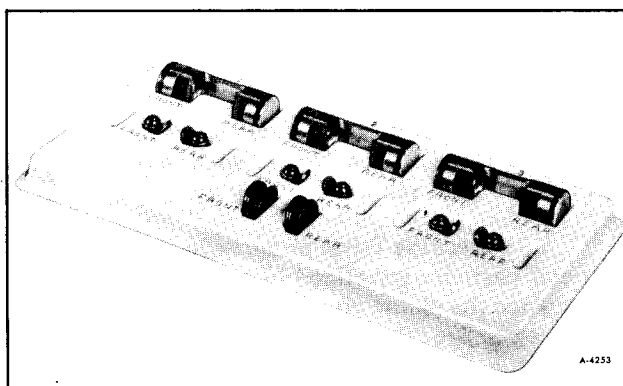

Figure 72—Parts Tray
Use Parts Tray J-9402 (figure 72) to retain compressor parts during disassembly.
7. Remove and examine piston balls, and if satisfactory for re-use, place balls in No. 1 compartment of Parts Tray J-9402 (figure 72).